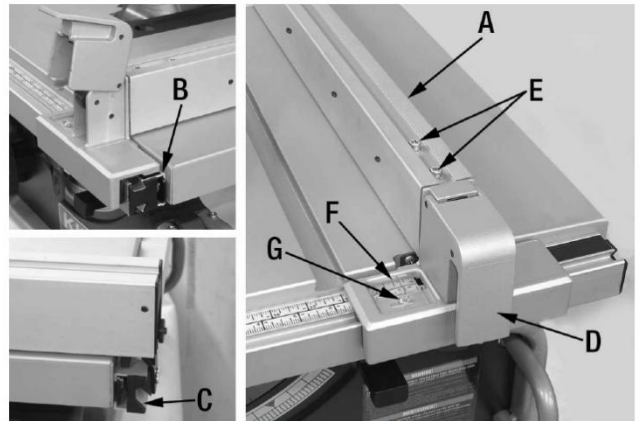
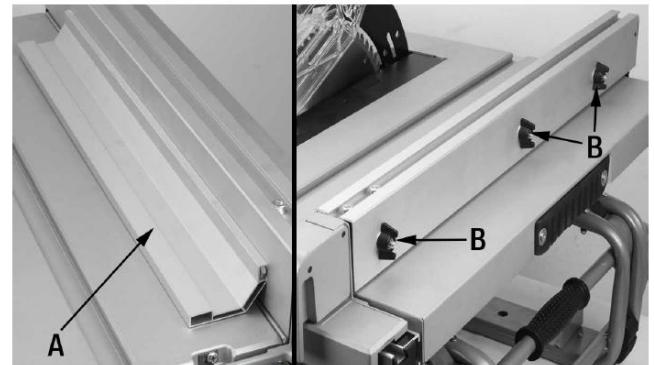

FIGURE 10
FIGURE 11
1. Align the front of the rip fence (A) Fig.10 with the side of the front rail (B). Align the back end of the rip fence (A) with the side of the rear rail (C). Slide rip fence (A) onto both rails. Check to ensure the rip fence locking lever (D) is in the unlocked and "up" position and the rip fence (A) slides freely on the rails (B) & (C).
2. Lower rip fence locking lever (D) "down" to lock the rip fence (A) in place.
1. Unlock rip fence (A) by raising locking lever (D) **Fig.10**. Loosen both cap screws (E) on top of the rip fence (A) using the 5mm hex key (provided).
3. Adjust the rip fence indicator (F) to the same marking by loosening the pointer screw (G) and reposition indicator.
4. The horizontal aluminum guide (A) **Fig.11** can be installed to left side of the rip fence in the horizontal position as shown. This aluminum guide is mainly used to safely rip thin and narrow stock, especially when cutting workpieces with the blade tilted to 45°.
5. Insert three long hex. bolts into the left side in the rip fence loosely and secure the hex bolts with washers and lock knobs (B). Slide the T-slot of the aluminum guide over the head of each hex. bolt, once in position, tighten lock knobs (B).
NOTE: It is not recommended to use the horizontal position aluminum guide (A) Fig.11 with the extension table extended.